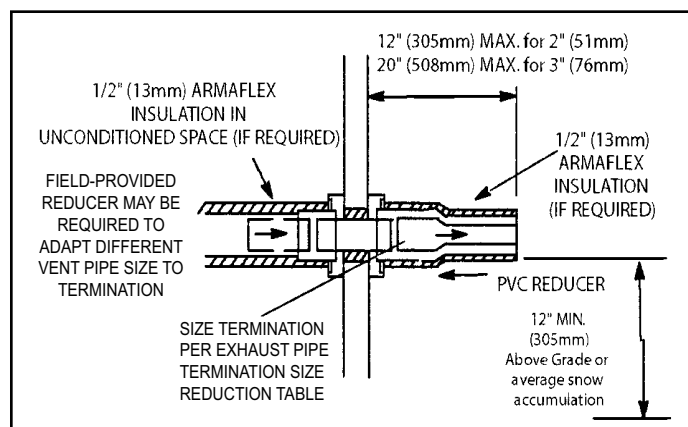

Figure 45. Non-Direct Vent Field Supplied Wall Termination
2. On field supplied terminations for side wall exit, exhaust piping may extend a maximum of 12 inches (305 mm) for 2" PVC and 20" (508 mm) for 3" PVC beyond the outside wall. See Figure 45.